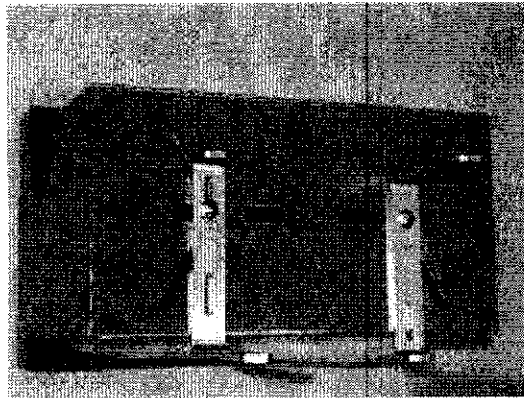

Figure 2
- 2) Secure the mounting adapters to the base with the included 5/16 carriage bolts and nuts (see Figure 2).